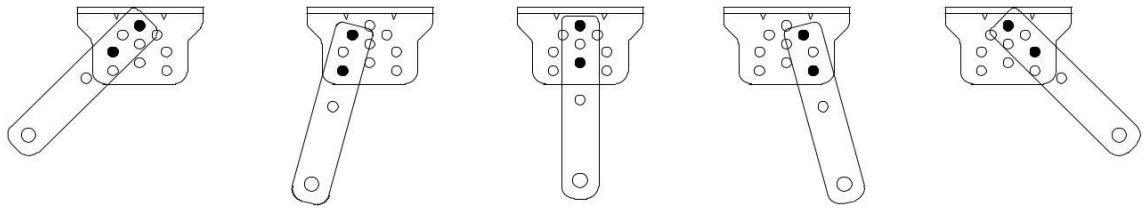

Figure 5
B) The connecting bracket and the wall bracket can be connected according to different conditions, see figure 5.